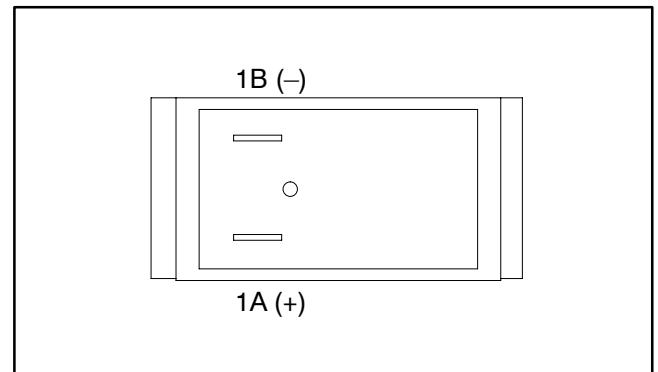

Figure 25
3. The terminals for the light are marked as shown in Figure 25. Correctly connect 12 VDC source to the light terminals.